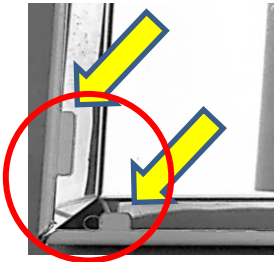

Figure 2. Stopper Shape
3. Check installation direction. Stopper shapes must be always right bottom (see figure 2).